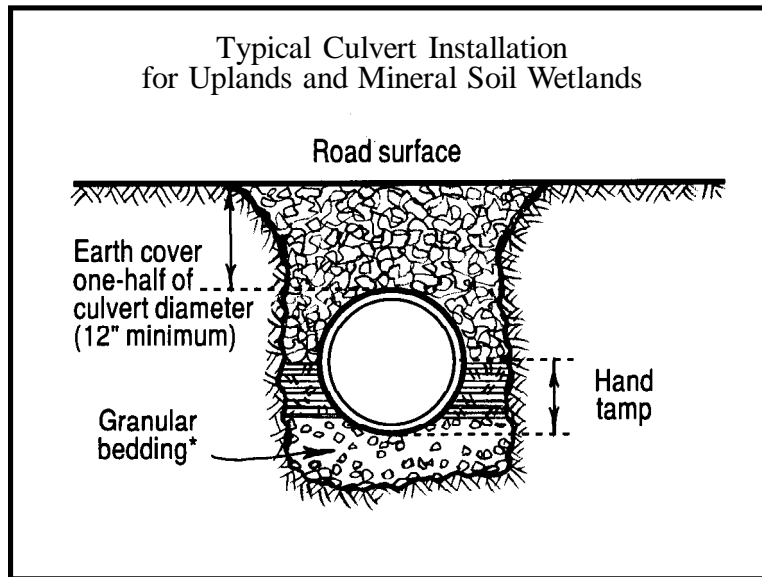

Figure ROAD-12
**U** Compact fill firmly around culverts, paying special attention to the sides and lower portion. Cover the top of culverts with fill to a depth of one-half the pipe diameter or 12 inches, whichever is greater. Culvert lengths should reach to the toe of the fill without changing the sideslopes of the fill. See Figure ROAD-12.